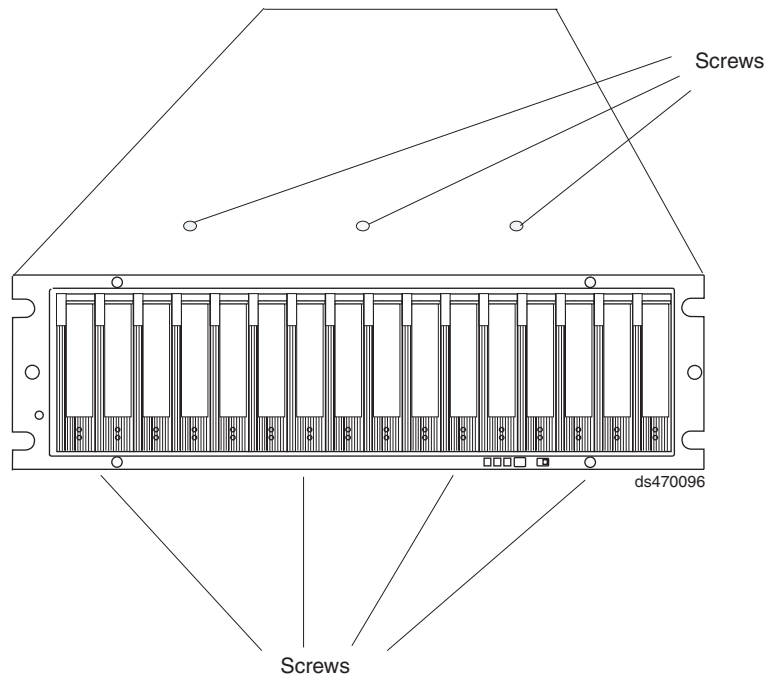

Figure 118. Screws holding the top and bottom sides of the chassis to the cage frame
13. Pull the chassis outward from the front of the rack and remove from the rack. Place it on a level surface. Look for a row of three Phillips screws on top of the chassis and a row of four Phillips screws on the bottom of the chassis, as shown in Figure 118 on page 179. Remove the seven Phillips screws using the #1 Phillips screwdriver. Save these screws.
18. Install the seven Phillips screws (three on top and four on bottom) that hold the front cage frame to the EXP810 chassis that you removed in step 13 on page 178, as shown in Figure 118.